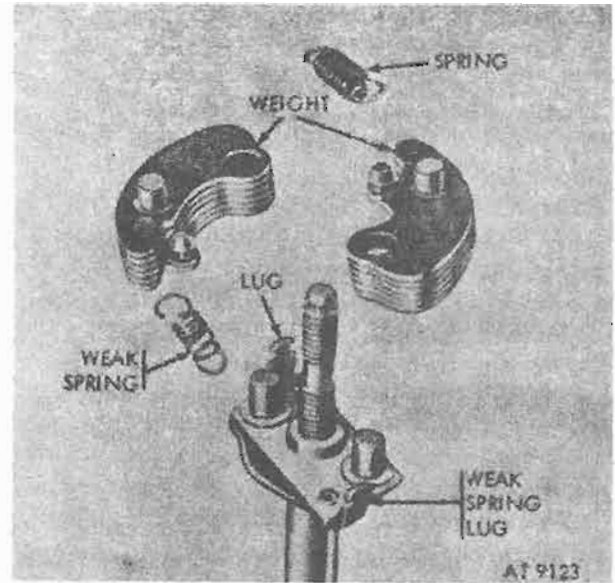

Figure 6-5. Governor assembly.
- c. Slip governor springs off lugs with long-nosed pliers. Mark weak spring lug to be sure weak spring is assembled to correct lug when assembling (fig. 6-5).
- d. Lift governor weights off pivots and remove springs from governor weights (fig 6-5). Refer to paragraph 7-14 a before assembling shaft.
g. Governor (fig. 6-5). Clean governor weights, governor springs and snapping, in drycleaning solvent or mineral spirits paint thinner and dry thoroughly. Discard weights if pivot holes are worn or if they are a loose fit on pivots. Discard springs if bent or distorted.
b. Replace governor weights on pivots and place springs on governor weights (fig. 6-5). Insure that weak spring is in proper positioning for positioning on the weak spring lug as outlined in paragraph 6-4 c. Slip governor springs over lugs with long-nose pliers (fig. 6-5).
b. Start fixture and set speed at 400 rpm. Advance indicator should read 1.7 to 3.2 degrees. If advance is too high, increase tension on weak weight spring by bending governor outer spring lug (fig. 6-5). If advance is too low, decrease tension on weak spring.
b. Increase speed to 400 rpm. Advance indicator should read $1\frac{3}{4}$ — $3\frac{1}{4}$ degrees. If advance is too high, increase tension on weak weight spring by bending governor outer spring lug (fig. 6-5). If advance is too low, decrease tension on weak spring.
d. Increase speed to 1600 rpm. Advance indicator should read $11\frac{3}{4}$ —13 degrees. If advance is too high, increase tension on strong weight spring by bending governor outer spring lug (fig. 6-5). If advance is too low, decrease tension on strong spring.